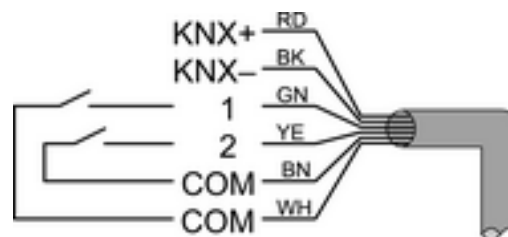

Figure 3
- If necessary, connect potential-free contacts to the inputs (figure 3).